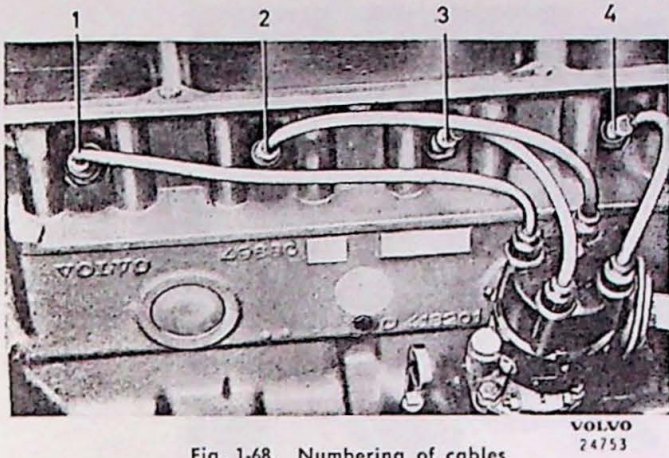

Fig. 1-68. Numbering of cables
3. Connect up a small bulb (max. 2 W) as shown in Fig. 1-66 and connect up the current. Turn the distributor housing slowly in an anti-clockwise direction past the contact breaker opening point for cylinder number 1, and then back again in a clockwise direction until the lamp just lights up. Tighten the distributor in this position. Make sure that the rotor is opposite the contact in the distributor cap which leads to number 1 cylinder, Fig. 1-68.
4. Fit the distributor cap and cables in order as shown in Fig. 1-68. The rotor rotates in an anti-clockwise direction.